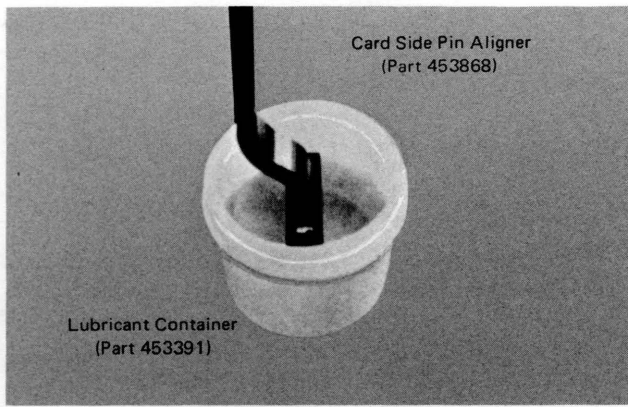

Figure 2-40. Applying Lubricant to Pin Aligner
2. Open the lubricant container (part 453391) and place the card side pin aligner (part 453868) into the lubricant, just touching the surface of the lubricant (Figure 2-40). Capillary action pulls the lubricant up into the aligner.
5. Place the aligner on the socket position to be lubricated, being careful not to bottom the aligner on the board surface (Figure 2-40).